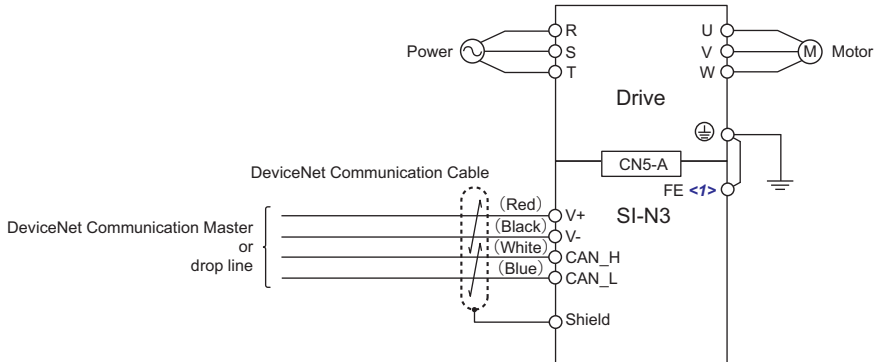

Figure 16 Option Connection Diagram
5. Firmly connect the DeviceNet communication cable to option terminal block (CN1). Install DeviceNet communications cables apart from main-circuit wiring and other electrical and power lines. Ensure the cable end is firmly connected (see Figure 16). Refer to Communication Cable Topology on page 29 for details.
5. Firmly connect the DeviceNet communication cable to option terminal block(CN1). Install DeviceNet communications cables apart from main-circuit wiring and other electrical and power lines. Ensure the cable end is firmly connected (see Figure 16). Refer to Communication Cable Topology on page 29 for details.